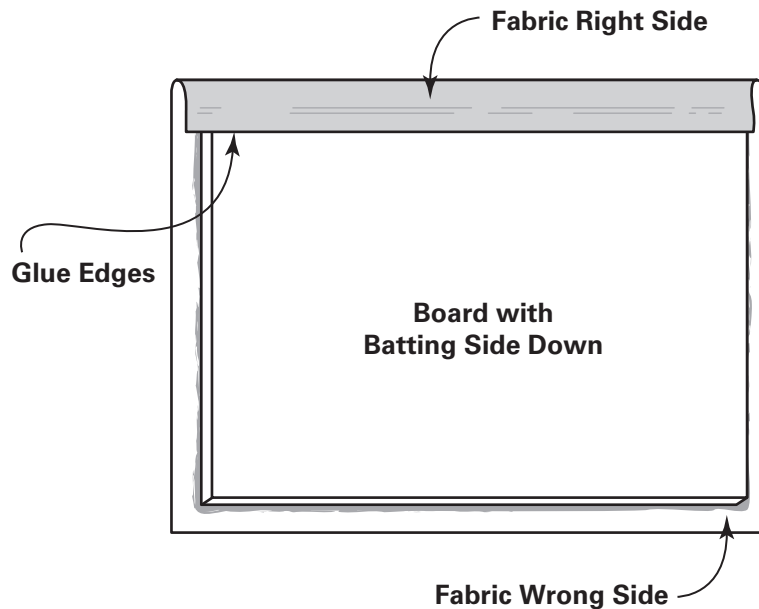

Fig. 18-2
2. To cover the front board, spray one side of the $\frac{1}{2}$ -inch (1.3-cm) thick foam core board with spray adhesive. Center the batting on the adhesive-covered board and press it in place. Place the fabric rectangle for the front board wrong side up on a flat surface. Center the board, batting side down, on the fabric. Wrap one side edge of the fabric to the back of the board and glue it in place with permanent fabric adhesive. Repeat for the opposite edge, pulling the fabric taut, but not so tight that it puckers. (Fig. 18-2) Repeat this procedure for the top and bottom edges. Tuck the fabric so that it's smooth at the corners.